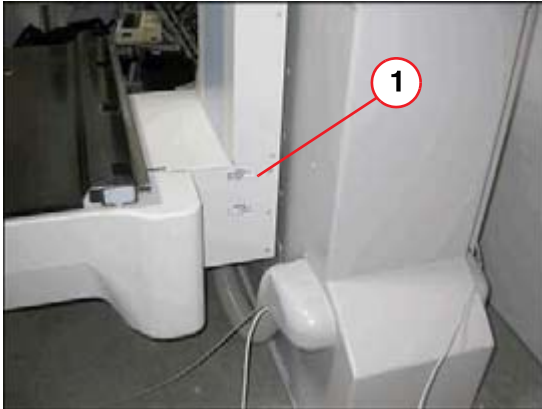

Fig. 22: Base of the system
- The next page shows the location of the label with the serial number (1/Fig. 22 / p. 26). The serial number is used for the DICOM unique identifier within the image header attribute as well for the file names of the images.
The serial number is located at the base of the system (Fig. 22 / p. 26).